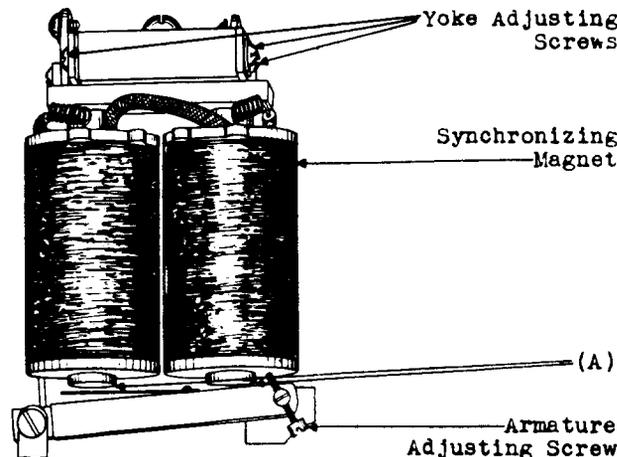

Fig. 6 - Synchronizing Mechanism
*2.22 Armature Air-Gap - Fig. 6 (A): With the armature in the operated position there shall be a clearance between the synchronizing armature and each of the two pole-pieces of Min. .010" Use the No. 74D gauge.